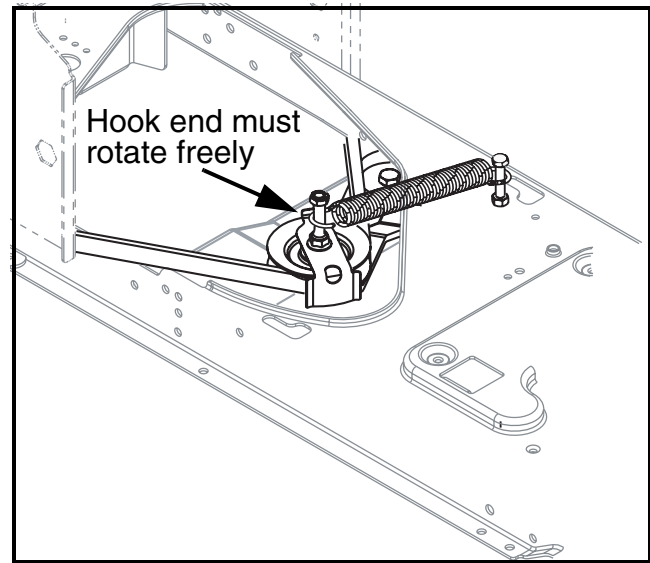

FIGURE 3
24. Install the idler extension spring, saved in Step 8, as shown in Figure 3.